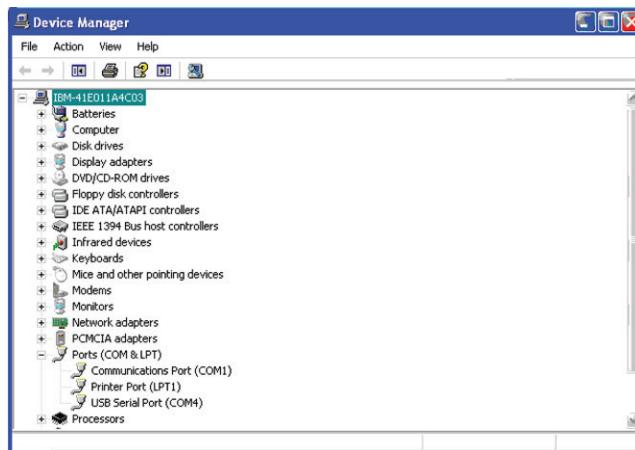

Figure 8. Device Manager
6. Go to the computer's device manager by choosing (Start → Control Panel → System → Hardware tab Device Manager). Look at the ports (COM and LPT). Notice the USB Serial Port (COM4). This tells you that a Virtual Com Port now exists (the USB emulated a RS232 com port) so that you can continue using the legacy Labview program. See Figure 8.